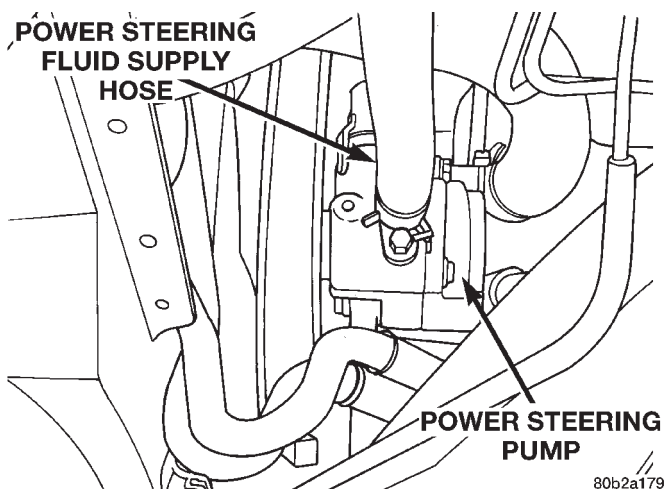

Fig. 9 Power Steering Fluid Supply Hose At Power Steering Pump
- (3) Raise vehicle.
- (4) Remove the power steering fluid supply hose (Fig. 9) from the supply fitting on the power steering pump.
- (8) Install the power steering fluid supply hose onto the supply fitting on power steering pump (Fig. 9). **When installing the hose clamp on the power steering fluid return hose be sure the clamp is installed past the upset bead on the nipple of the power steering fluid reservoir.**
- (9) Lower vehicle.
- (10) Connect the battery ground cable onto the ground stud located on the strut tower.